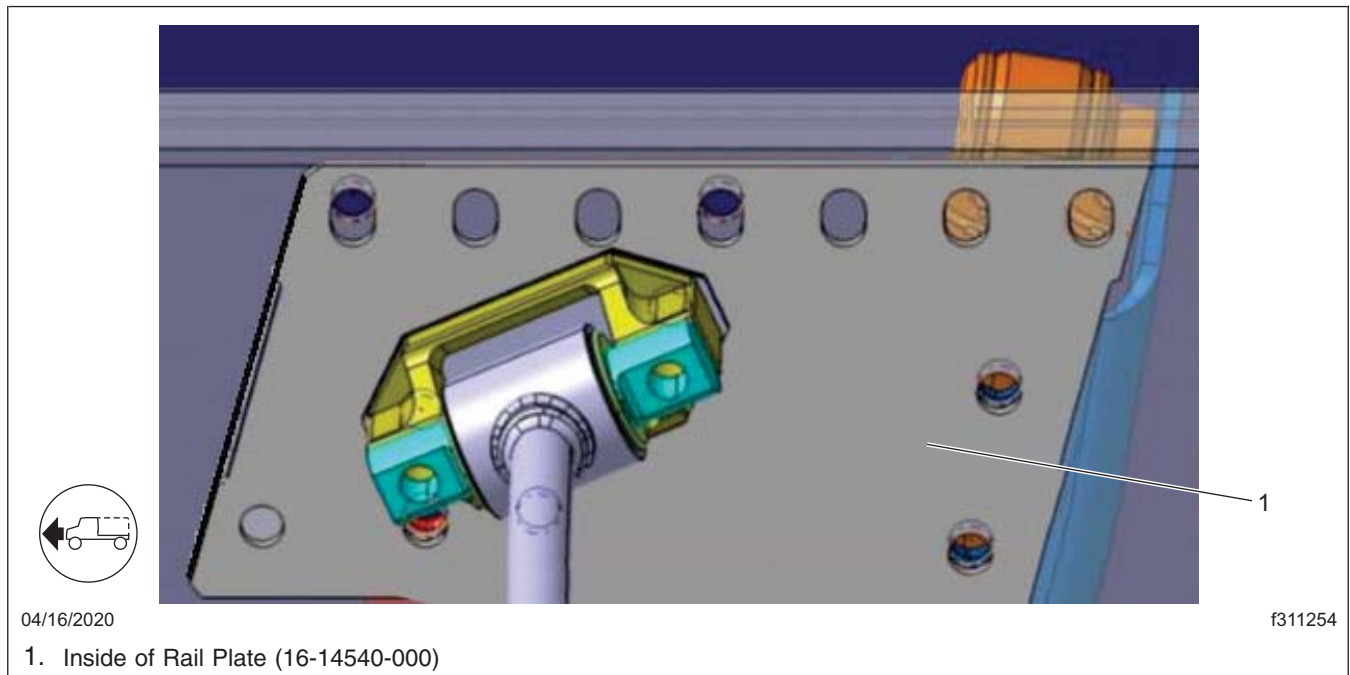

Fig. 1, View From Inside of Right-Hand Rail
8. Align the inner reinforcement plate (16-14540-000) with the shock bracket mounting holes on the inside of the right-hand frame, then attach the shock mounting bracket to the frame and inner reinforcement plate using the two 2 in long 5/8 in bolts, nuts, and washers. See Fig. 1. Tighten the bolts hand tight only.